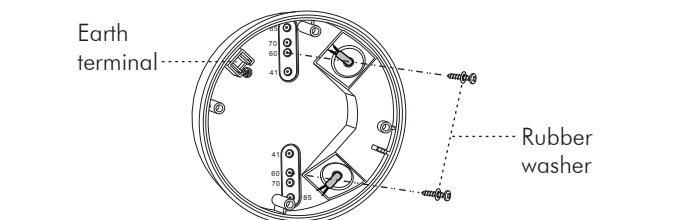

FIG.16
- 3.4.3.3 Choose proper knockouts to fix the junction box JB-41 on the surface of ceiling board with 2pcs wood screws attached with rubber washer (See FIG.16).